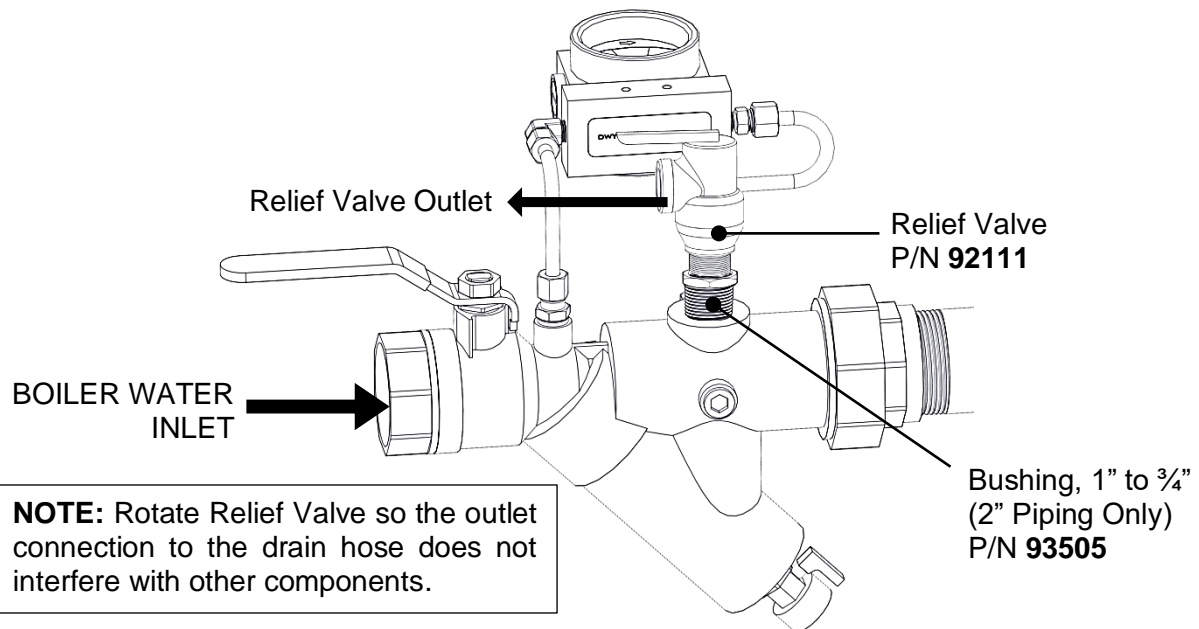

Figure 2-11. Relief Valve Installation – New York City Option
3. If the unit is being installed in New York City only (kits **58128-3 – 58128-6**), in addition to the steps above you must install a second Relief Valve (P/N **92111**) in the Boiler Water Intake Ball Valve/Strain combo, as shown in Figure 2-11. If the unit has 2 inch piping (models SP-42, SP-61 or SP-113), you must include the 1" to 3/4" bushing (P/N **93505**). Units with 1 1/2" piping do not need this bushing.